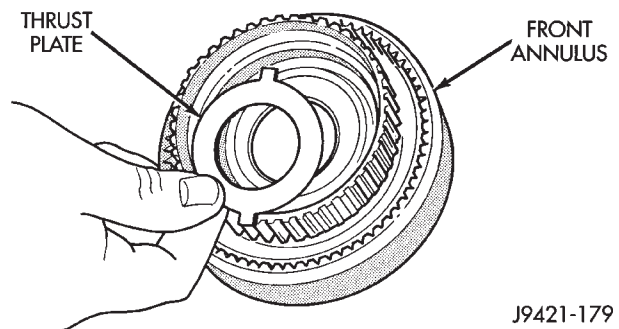

Fig. 163 Positioning Thrust Plate On Front Annulus Support
(18) Position thrust plate on front annulus gear support (Fig. 163). **Note that plate has two tabs on it. These tabs fit in notches of annulus hub.**